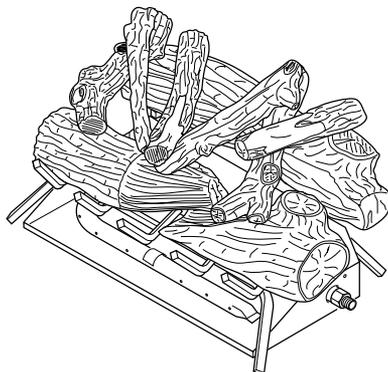

Figure 20 - Placement of Top Logs
5. Place the smaller top logs onto the bottom logs (see Figure 20, page 13). Leave as much open space between logs as possible to minimize flame impingement and sooting.